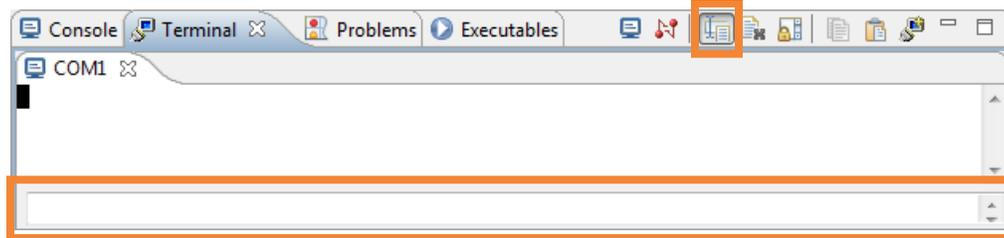

Figure 3.30. Terminal View
5. (Optional) Click the **Toggle Command Input** icon that adds an edit box to enter text (Figure 3.30).